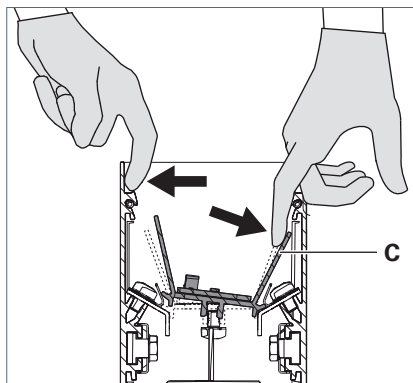

Fig. 19: Disengaging the reflector.
- Push one side wall of the luminaire outward by pushing the reflector **C** in the opposite direction at the same time, see Fig. 19.